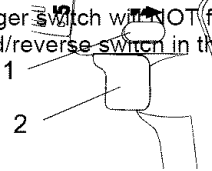

Fig. 5
The forward/reverse switch (1) is conveniently mounted above the trigger switch (2) (see Fig.5). To make the drill rotate clockwise (for drilling) push the forward / reverse switch to the left. To make the drill rotate counter clockwise for removing screws, push the forward / reverse switch to the right.